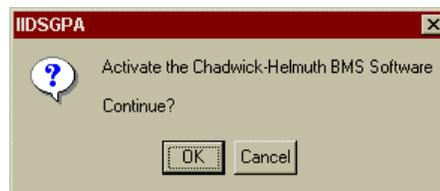

Figure 60. Activate BMS Software Dialog
3. The following dialog box will appear. Select OK to launch the BMS program (refer to Figure 60).